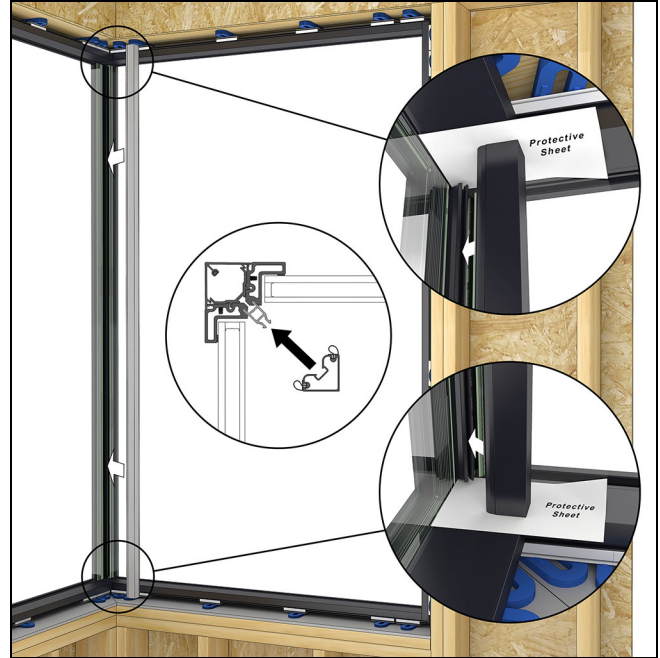

Figure 64 Corner cover
7. Install the corner cover. Insert a sheet of paper or thin plastic to protect the head jamb and sill covers. See Figure 64.